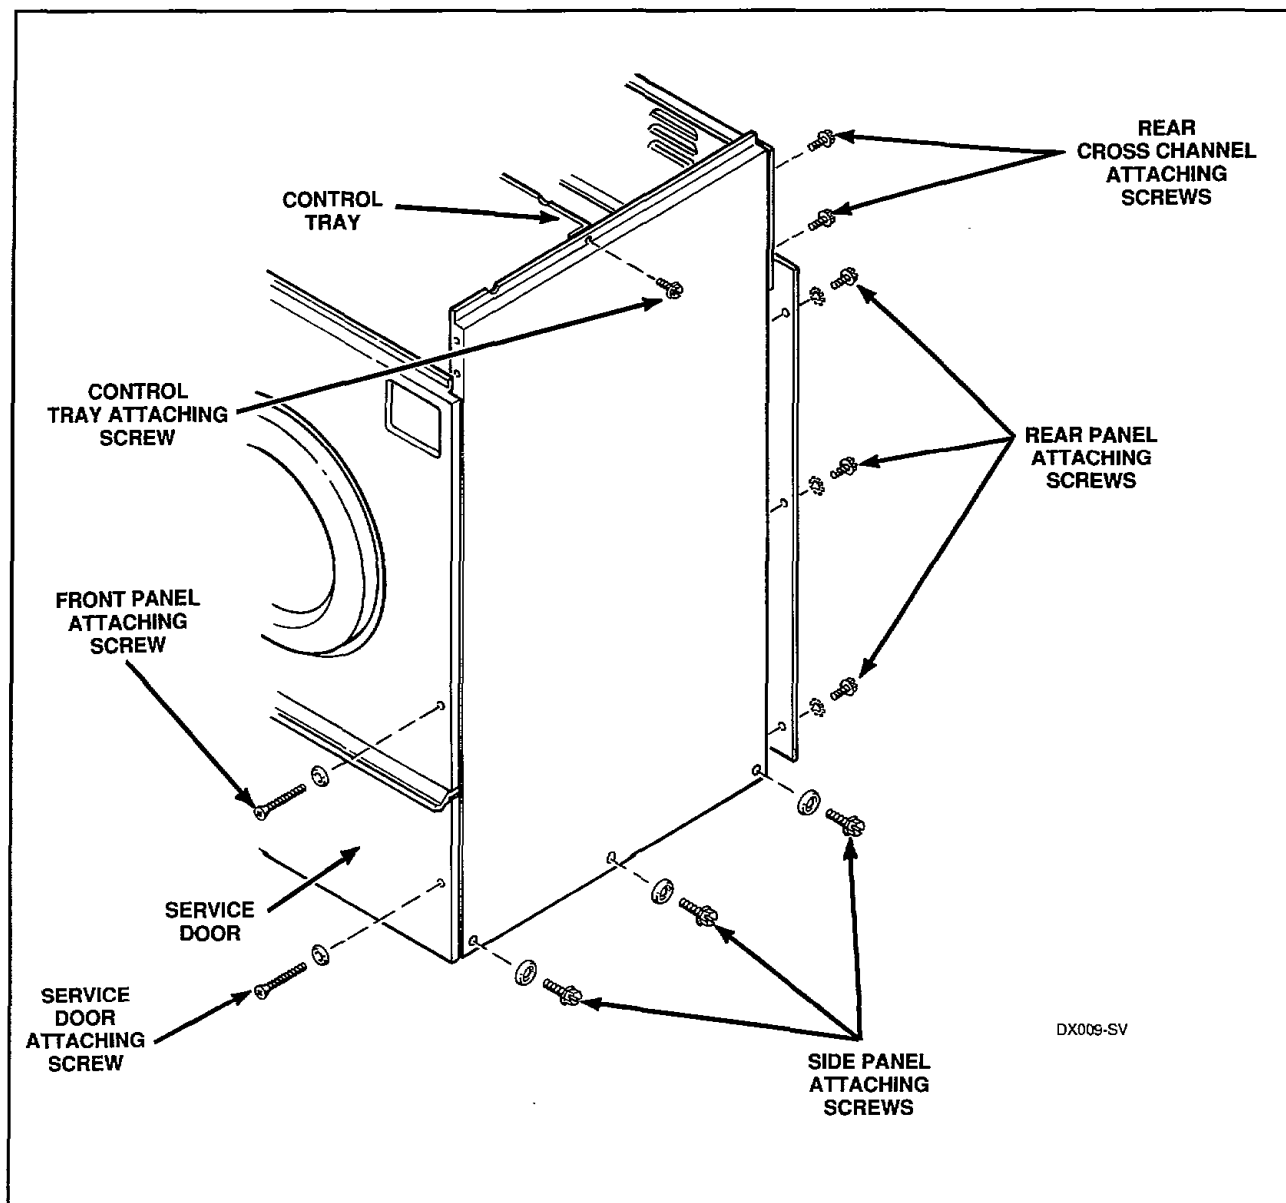

Figure 13
- e. Remove two screws and cupped washers holding service door to washer side panel and remove door, *Figure 13*.
- f. Remove screws holding rear panel and cross channel to the side panel, *Figure 13*.
- g. Remove screw and cupped washer holding front panel to side panel, *Figure 13*.
- h. Remove hardware holding front channel to side panel, *Figure 13*.
- i. **RIGHT SIDE PANEL ONLY** — Remove screws holding control tray to top flange of side panel, *Figure 13*.
- j. While supporting side panel, remove screws holding side panel to washer base, *Figure 13*.